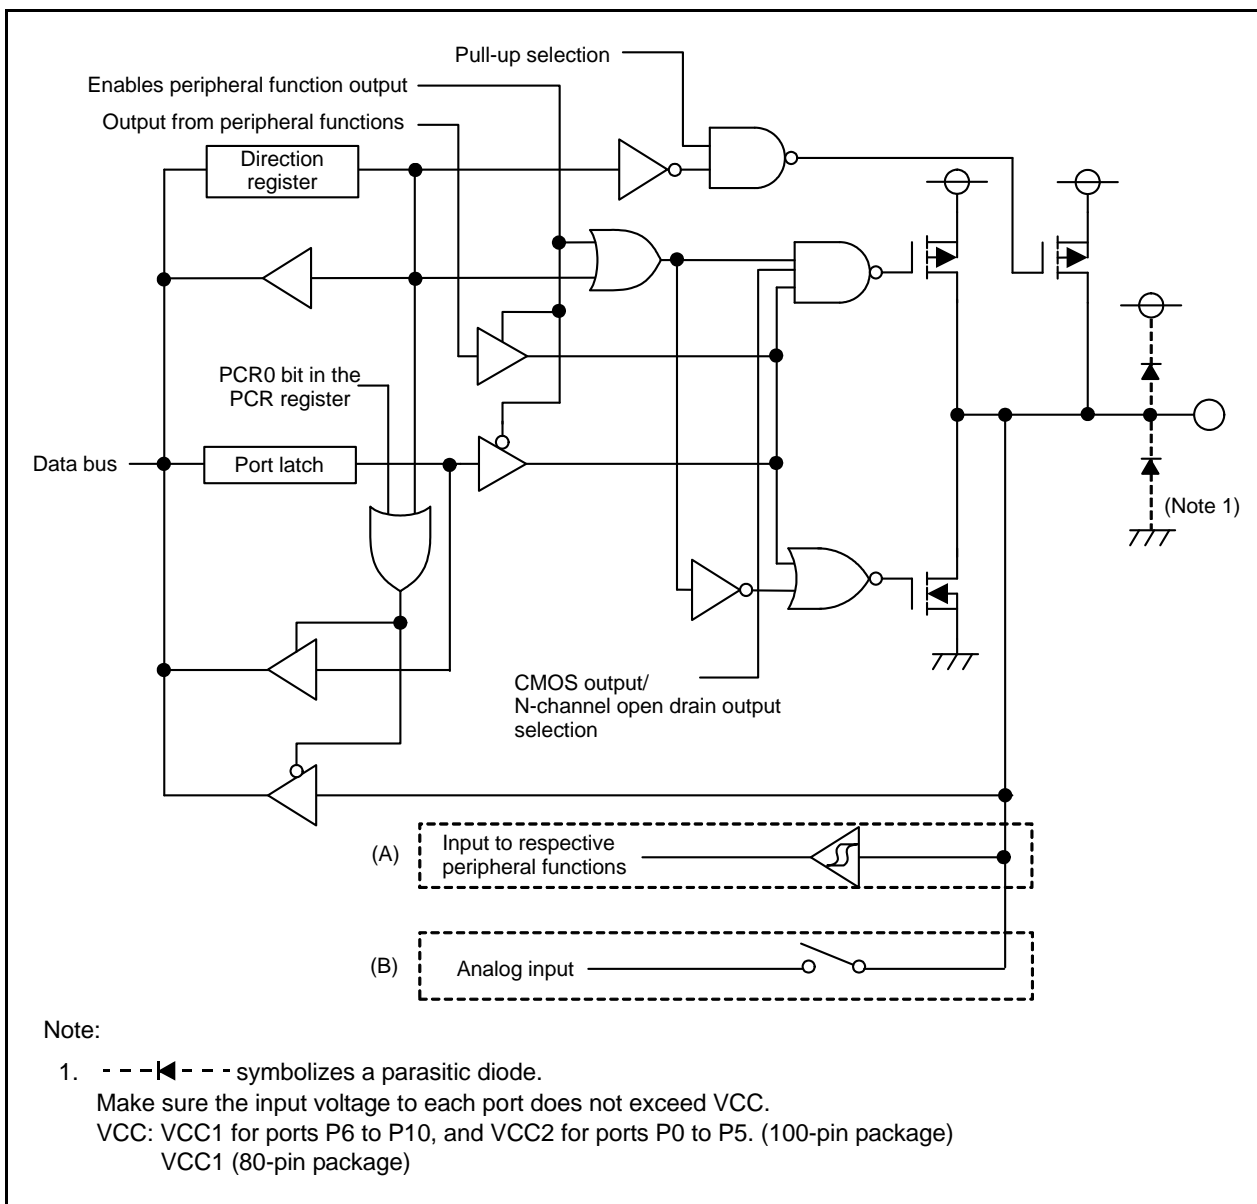

Figure 13.5 I/O Ports (Port P1, CMOS Output/N-channel Open Drain Output Selection)
Peripheral function input (A) in Figure 13.5	Analog input (B) in Figure 13.5